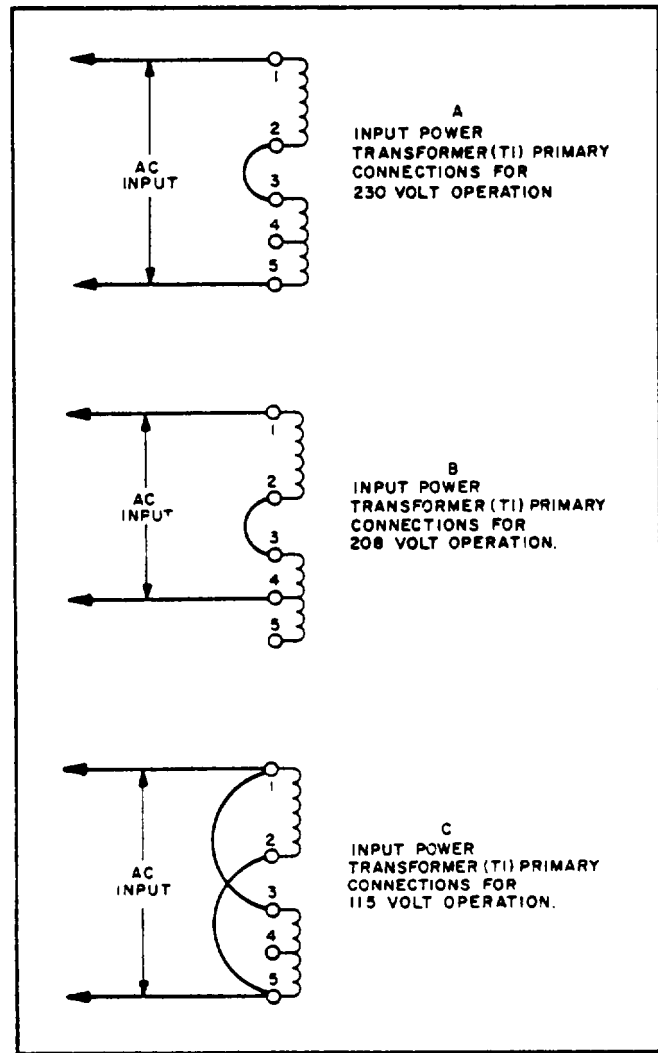

Figure 2-3. Power Transformer Primary Connections for 208Vac and 115Vac Operation (Model 6259B, 6261B, and 6268B)
d. Unsolder wire connected to terminal 5 of power transformer T1 (see Figure 7-4) and solder it instead to terminal 4 of transformer (see Figure 2-3 B).
f. Unsolder jumper connecting terminals 2 and 3 of power transformer T1 (see Figure 7-4) and solder jumpers between terminals 1 and 3, 2 and 5 (see Figure 2-3 C).